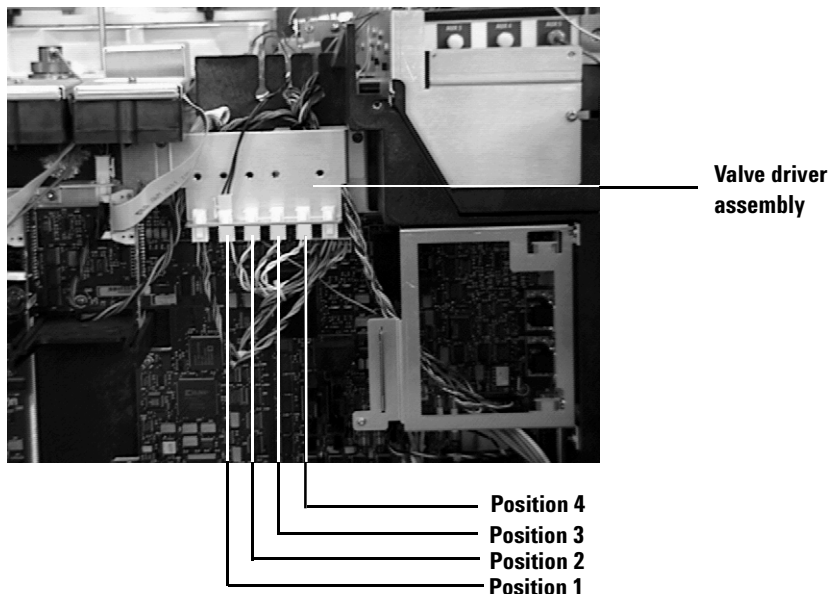
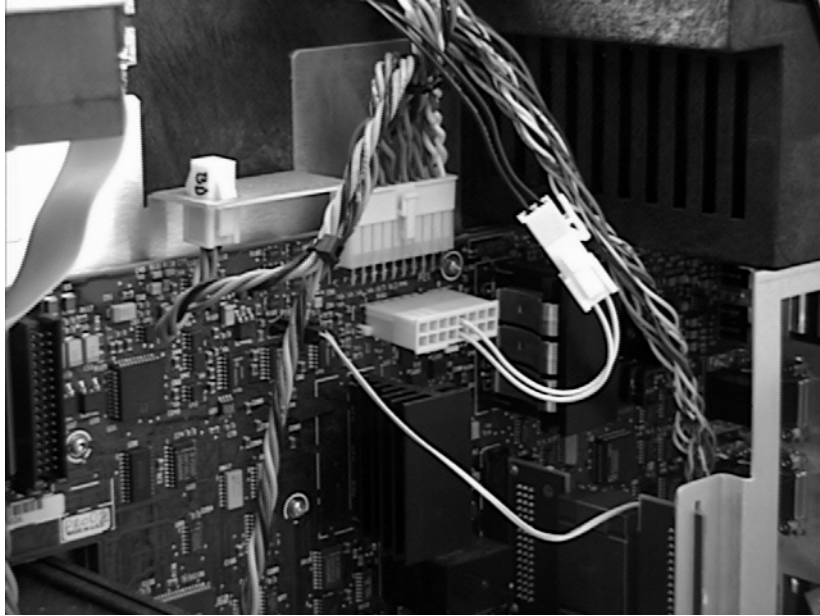

Figure 8 Valve driver assembly
Figure 9 Installing the valve jumper cable
- 9 Inspect the GC main electronics board to determine if the valve driver assembly is installed (see Figure 8).
If the valve driver assembly *is* already installed, plug the 2-pin connector from the SVE valve assembly into position 1 of the valve driver assembly (see Figure 8). If position 1 is already used, plug the connector into the next available position.
If the valve driver assembly *is not* installed, attach the valve jumper cable to P22 on the GC main electronics board (see Figure 9). Plug the 2-pin connector from the SVE valve assembly into the 2-pin connector of the jumper cable.
Parameter	If the valve driver assembly has been installed, enter the appropriate valve driver position used (see Figure 8). If the valve jumper cable has been installed, see Figure 9.